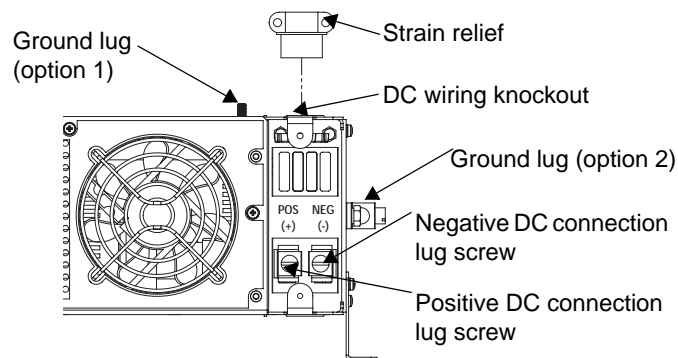

Figure 9 XADC DC Connections
1. Loosen the positive and negative screws on the DC connection lugs (see Figure 9).
6. Make the DC ground connections to either of the ground lugs shown in Figure 9.